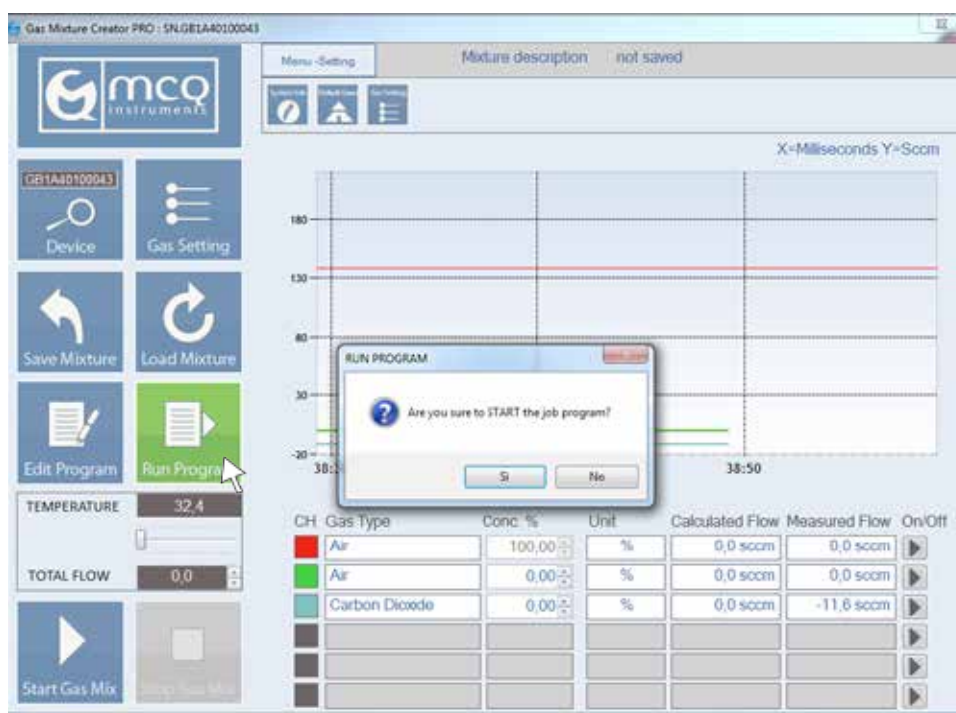

Fig. 34
- To RUN your created program, once you have load it, click on the button "**Load Program**" in the main screen of the software. A confirmation windows will be open and then click "**yes**". (Fig. 34)